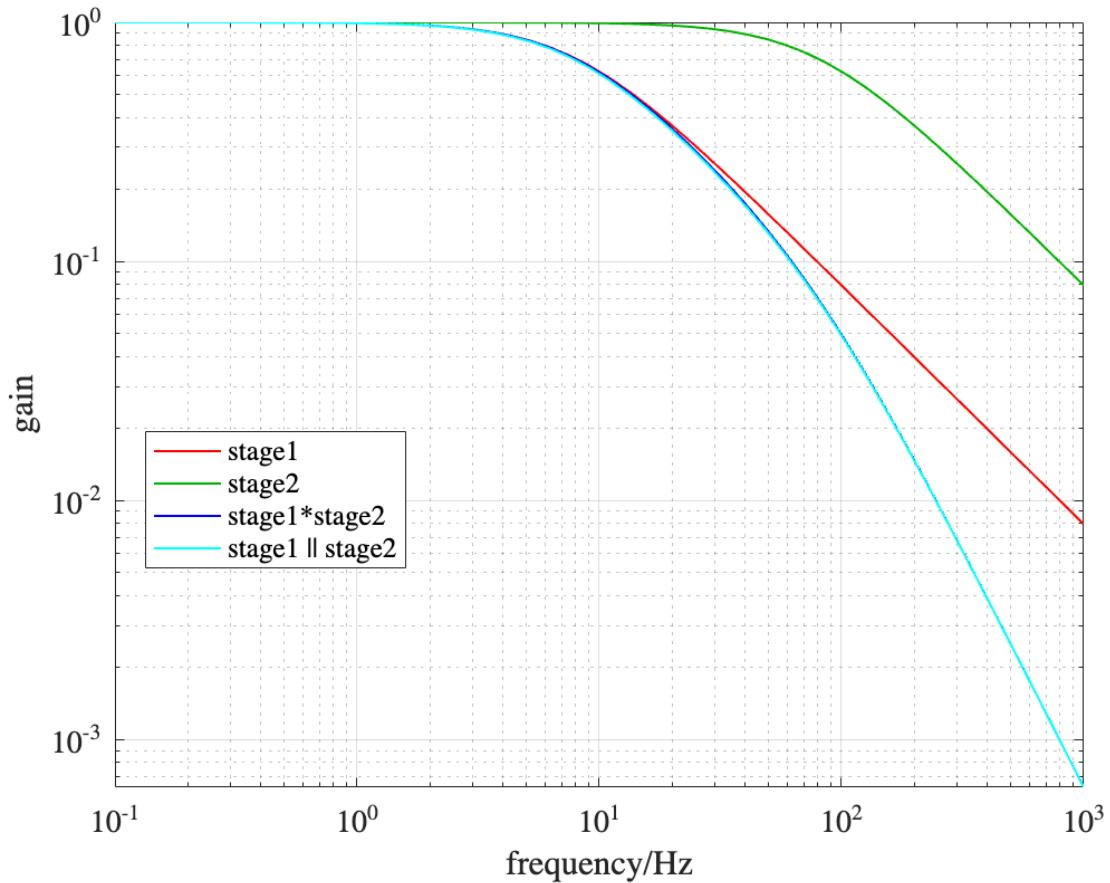

Figure 10. Reversing the stages so $R_2 \gg R_1$ reduces loading on stage1 by stage2, and the stages behave independently.
7. We don't (yet) have a function generator to measure frequency response curves. We will construct one soon, automate its frequency control, and measure curves like Fig. 10 in seconds. But at this point we have confidence in our parallel impedance model because it matches theory at the two frequencies that we measured, 0 = DC and 980Hz. (Note: a trick to measure frequency response without a function generator is with a square wave, since they consist of many harmonics (Fig. 12). The SNR of the harmonics generally decreases with $1/n$, so "sweeping" a sine wave can be a more accurate, but slower, method.